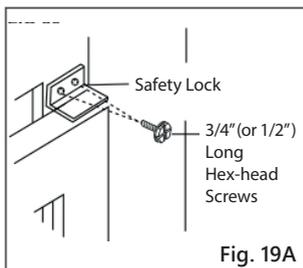

Fig. 19A
- Attach right angle safety lock (Fig. 19A).